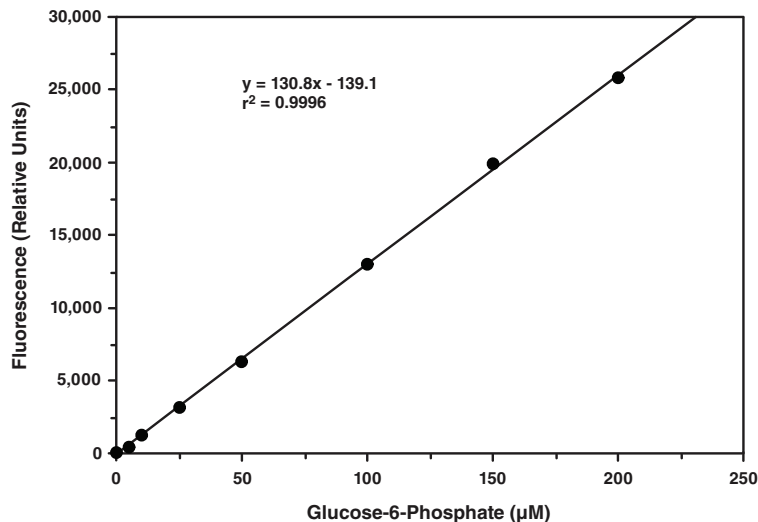

Figure 2. G6P standard curve
2. Subtract the fluorescence value of standard A from itself and all other standards. This is the corrected fluorescence (CF).
3. Plot the corrected fluorescence values (from step 2 above) of each standard as a function of the final concentration of G6P from Table 1. See Figure 2, on page 16, for a typical standard curve.